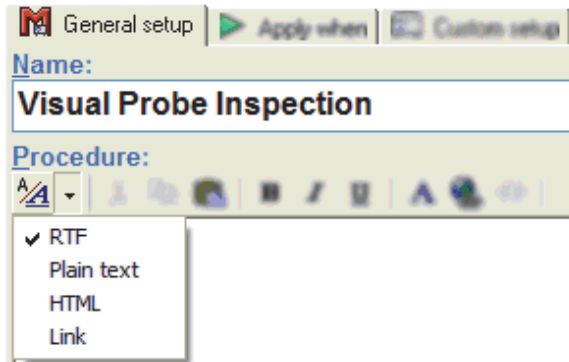

Figure 3-12. Procedure Format Menu
2. Click the arrow on the Format drop down button (A) shown in the toolbar just below the Procedure heading to display the format menu shown in Figure 3-12.